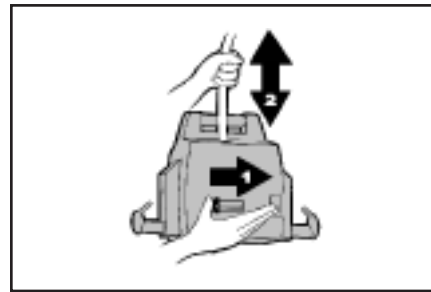

Figure 1
- b. The other way to unwind the strap is to use the Quick-Release. Push the knob (1) and pull the strap out of the lift (2) (Figure 1).
14. Unhook the lift from the trolley in the rail and use the Quick-Release to shorten the strap. To do so, push the knob (1) and hold the strap while it winds itself into the lift (2) (Figure 1).